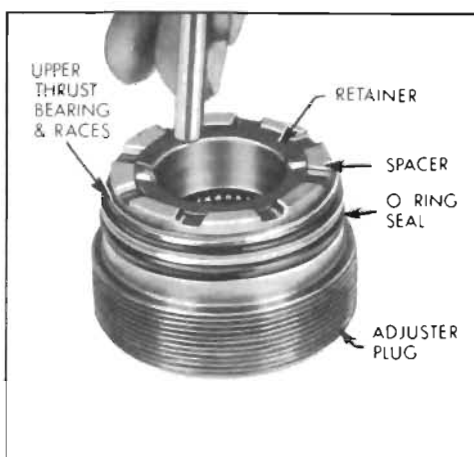

Figure 8-39—Installing Upper Thrust Bearing Retainer
3. Lubricate new adjuster plug "O" ring seal with petroleum jelly and install on adjuster plug. Assemble large O.D. thrust bearing race with internal flange up on adjuster plug, then thrust bearing, smaller thrust bearing race and thrust bearing spacer on adjuster plug. Install new thrust bearing retainer into needle bearing bore using punch, being careful not to damage spacer. See Figure 8-39. Radial location of dimples on retainer is not important. Thrust bearing assembly and spacer must be free to rotate and retainer must be completely below surface of spacer.